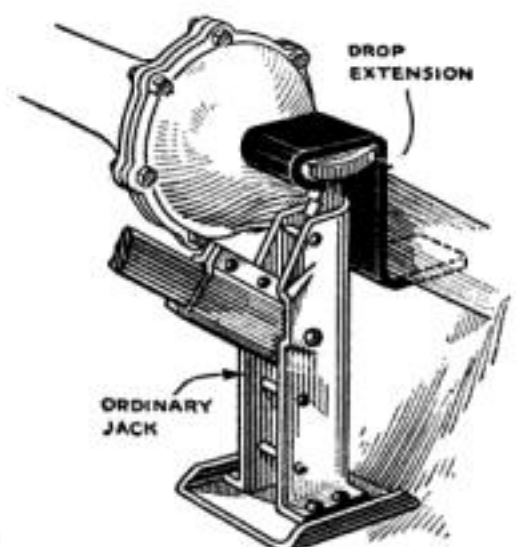

Fig. 4. Heavy strap iron is bent to make drop extension for jack.
5. "Tack" the 1 by 3 in. rails on the posts to hold them the proper distance apart at the top (see Fig. 4).
10. Put beams, rafters, and roof slats in position (see Fig. 4).
Fig. 4. The dimensions given need not be followed but should serve to give an idea of the general proportions of the structure. Redwood is one of the most durable woods to use for pergola construction.
FIGURE 4 shows a way to form a drop extension out of a heavy piece of strap iron. This drop extension will prove extremely useful in cases where it is necessary to get under the axle when the jack itself is too high. Do not attempt to make the drop extension out of light strap iron. The steel must be so thick that there will be no chance of the weight bending the lower angle and permitting the axle to slip.